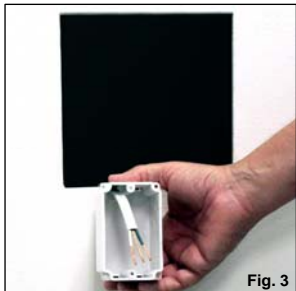

Fig. 3
- Fig. 3** Run the source of power to the included workbox.